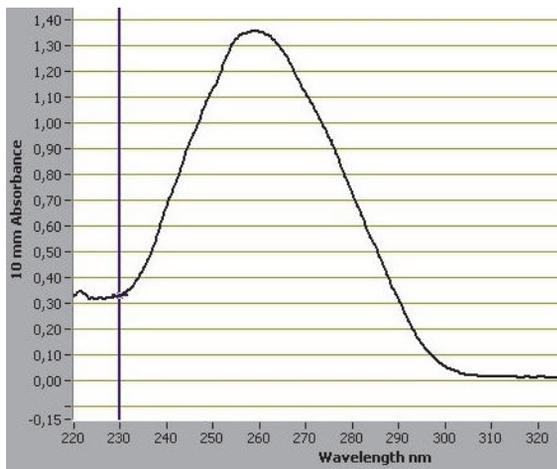

Figure 2. Typical spectrum of pure DNA
- 4 Record the A_{260}/A_{280} and A_{260}/A_{230} ratios. High-quality gDNA samples have an A_{260}/A_{280} ratio of 1.8 to 2.0, which indicates the absence of contaminating proteins. Scanning the absorbance from 220-320 nm will show whether contaminants exist that affect absorbance at 260 nm. Check the absorbance scans for a peak at 260 nm and an overall smooth shape as shown in **Figure 2**. The ideal 260/230 ratio for pure DNA is >1.0 .